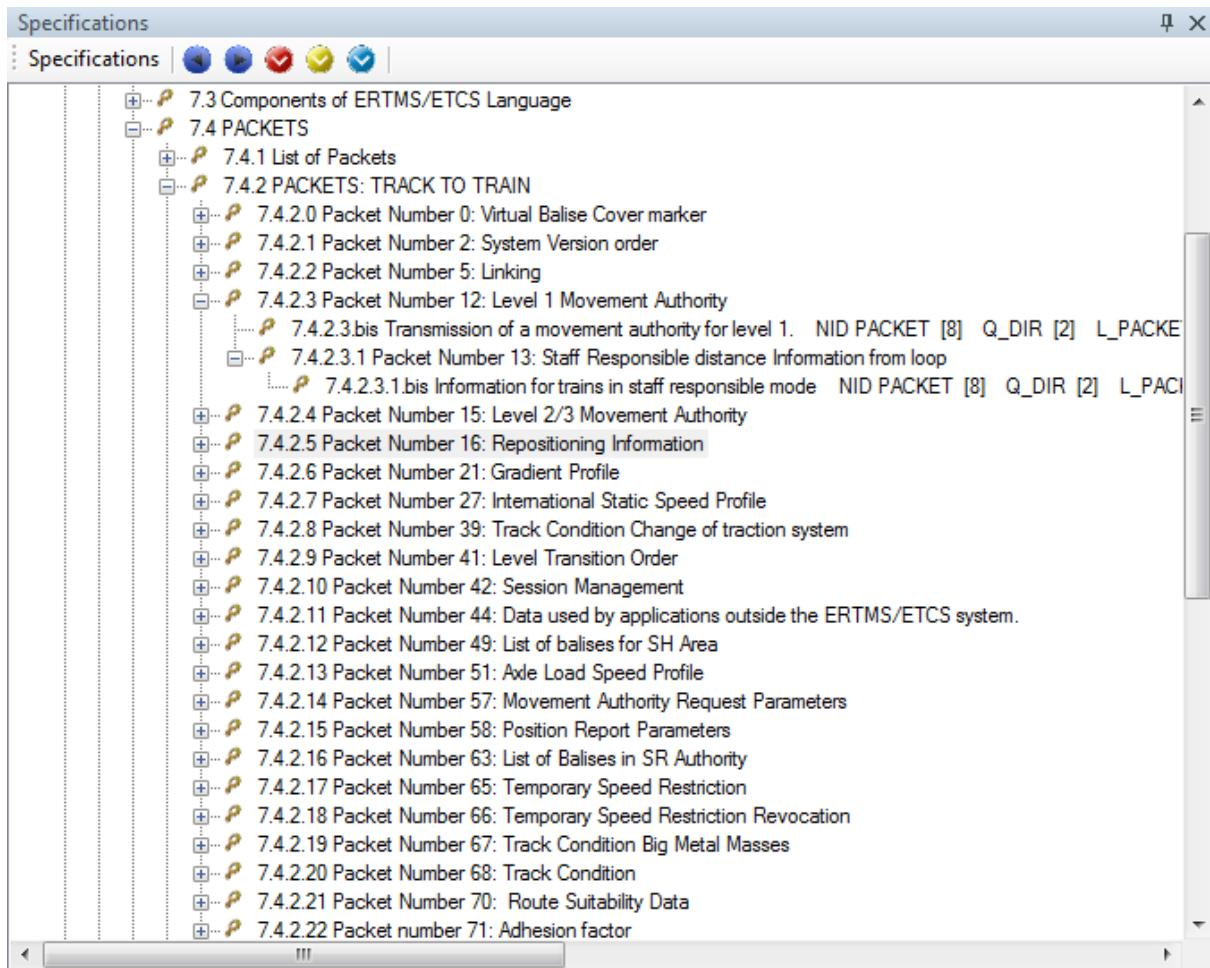

Figure 18: Selected Subset Specification view.
- On the upper left side the hierarchical tree view is found. It displays the input **specifications** in hierarchical order. It faithfully mirrors the content of the selected Subset as depicted by Figure 18.